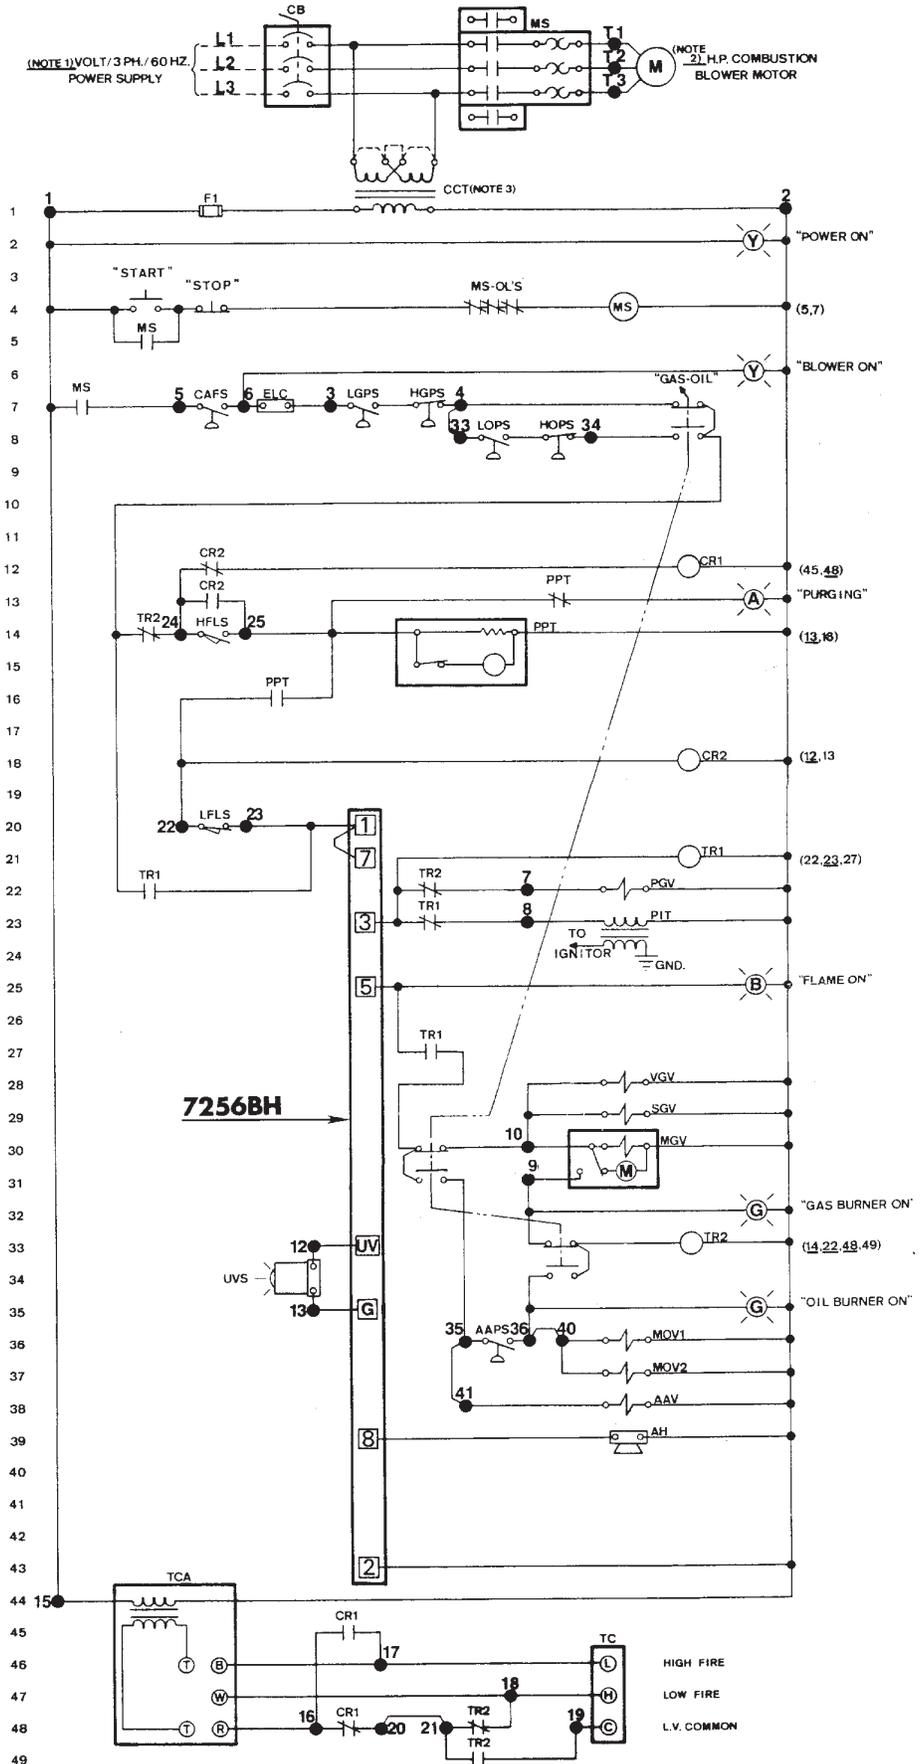

Figure 3.4. Wiring Diagram for Suggested Control Panel
2. A combustion control panel is required for all Mark IV burners. Figure 3.4 illustrates the suggested control panel wiring diagram and operating sequence.